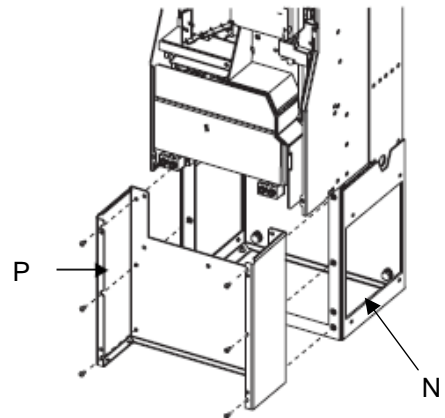

Figure 13
Step5: Attach the conduit box (P) to the support frame with M6 screws. See figure 13.